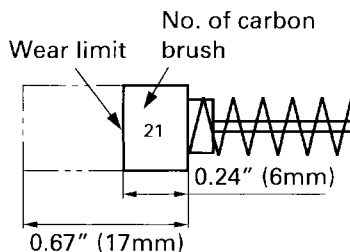

Fig. 4
4. Inspecting the carbon brushes (Fig. 4)
NOTE: Use HITACHI carbon brush No. 21 indicated in Fig. 4.